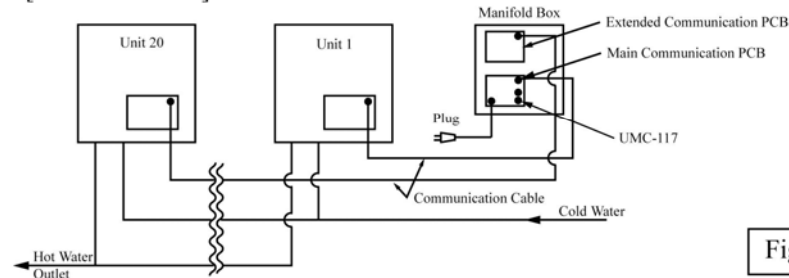

Figure 1
See figure 1 for typical installations of a manifold controller and extended communication PCB with multiple water heaters. An extended communication PCB is required for installation of more than six (6) water heaters. The extended communication PCB and the communication cables are sold separately.